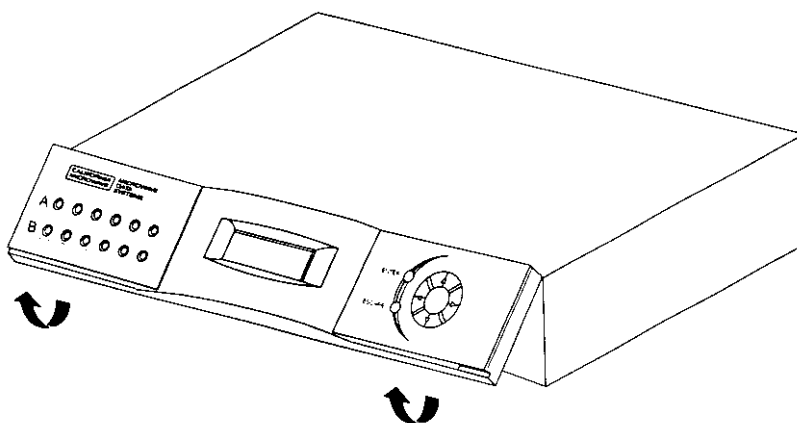

Figure 8. Front panel removal
1. Detach the panel from the radio by grasping it firmly along its bottom edge and pulling away from the radio chassis (Figure 8).